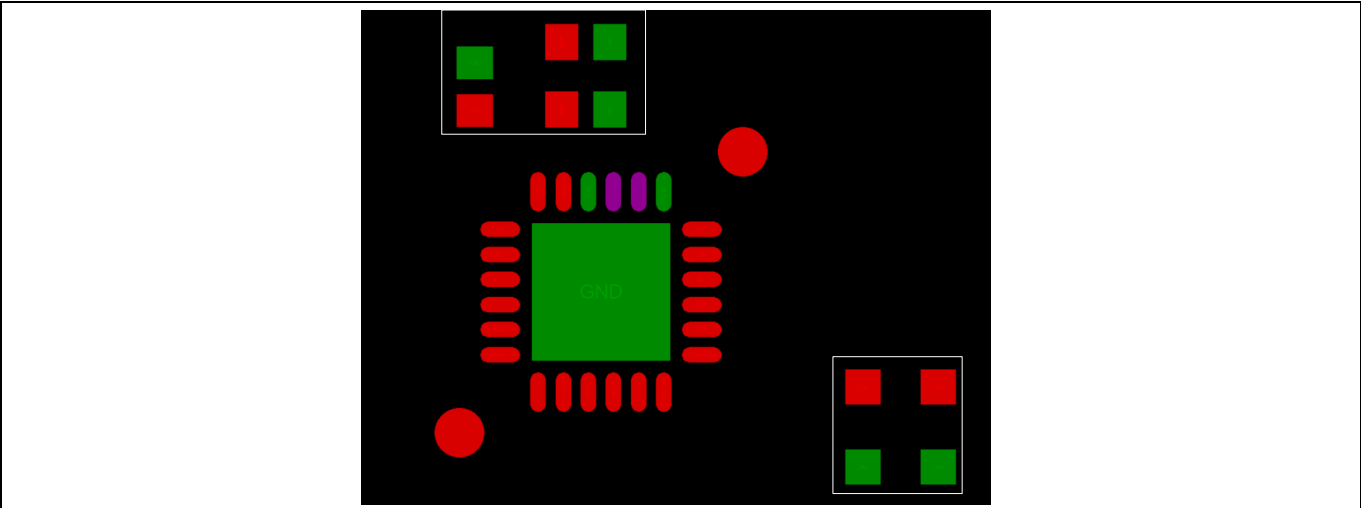

Figure 27 Placement of bulk and decoupling capacitors
- Place decoupling capacitors close to the power pins of the respective PMG controller for high- and low-frequency noise filtering as shown in Figure 27.